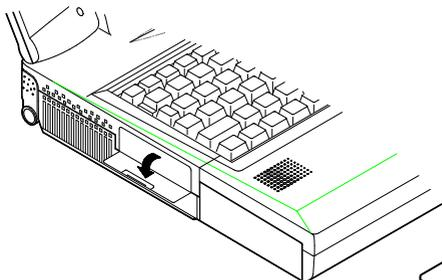

Figure 2-17
1. Open the access door of the PC card sockets (Figure 2-17).